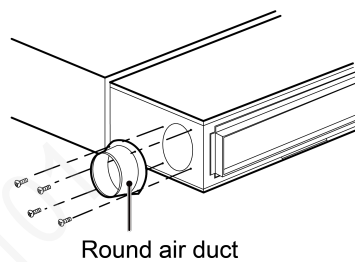

Fig 4.25
- (2) Install circular flange so that fresh air duct can be easily connected, as shown in Fig 4.25.
- (3) Both air duct and circular flange need to be well-sealed and insulated.
- (4) Fresh air should be the air that has been filtered.